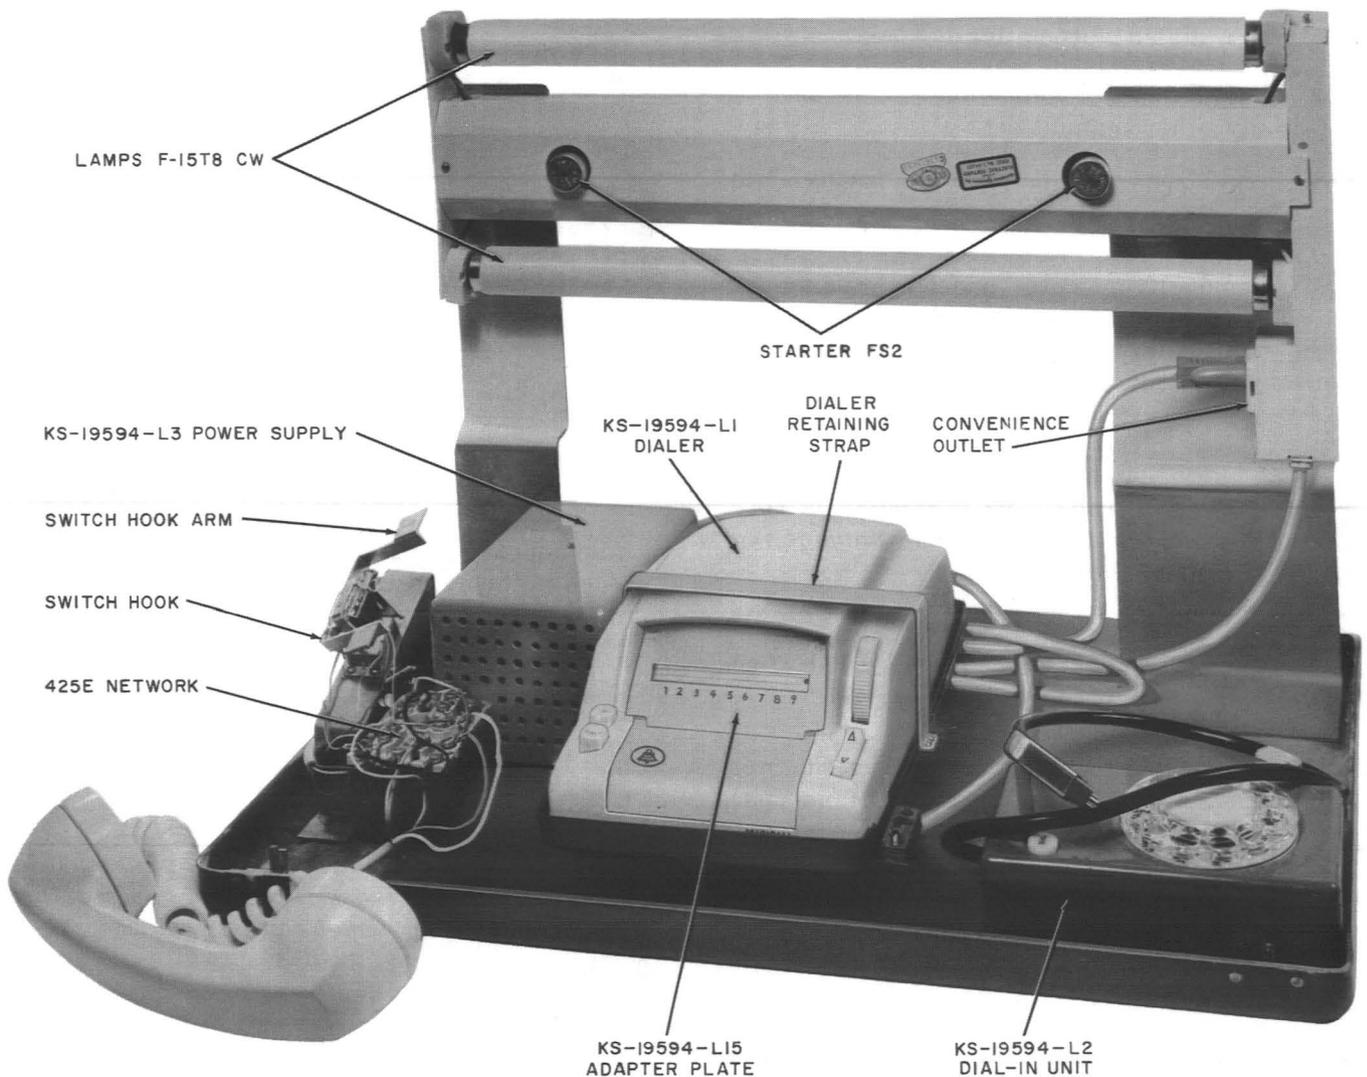

Fig. 2 — F-56503-A Telephone Set — Interior View
(8) Install the retaining strap over the dialer housing and secure the dialer to the pan.
(9) Place the dial-in unit in its storage position in the right front corner of the frame (Fig. 2).
Make certain switch hook plungers properly engage switch hook assembly arms (Fig. 2) before securing housing screws.